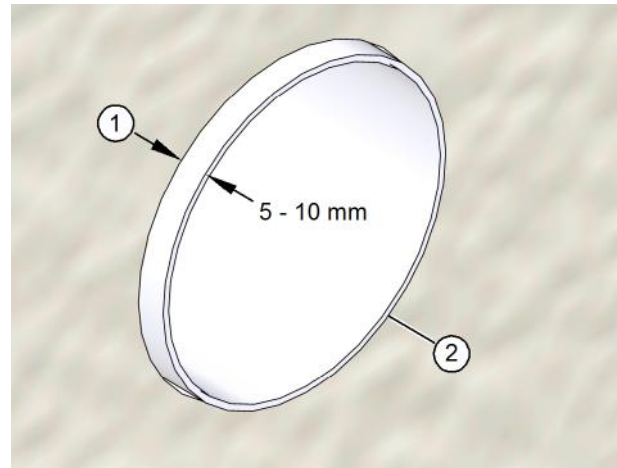

Fig. 16: Checking the ventilation pipes
- ▶ Check that the ventilation pipes protrude 5 - 10 mm beyond the external plaster (see item 1 in Fig. 16).
- ▶ Check that the cut surfaces of the ventilation pipes have been deburred (see item 2 in Fig. 16).